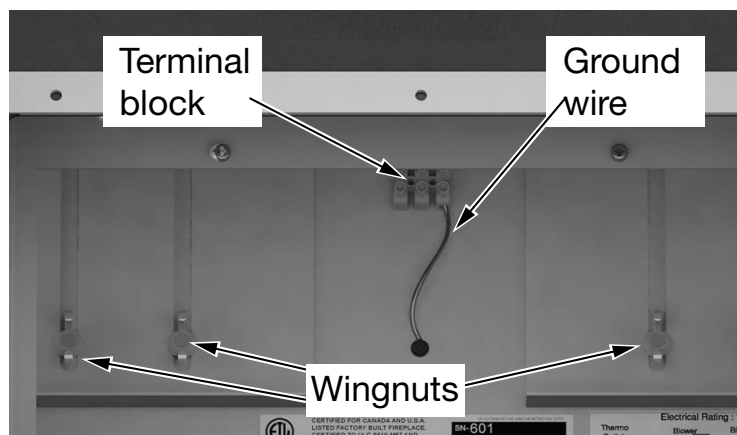

Figure 5: Terminal block, blower wingnuts and ground wire
5. Disconnect the wire leads of the blower you are replacing from the electrical terminal block located on the base of the unit, between the blower brackets and the connection to the Thermo Switch (Figure 5).